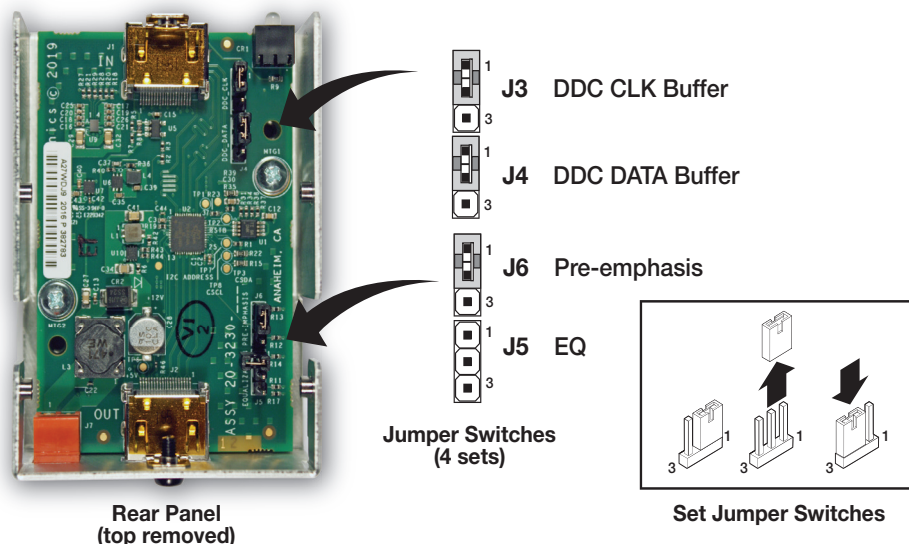

Figure 4. Locating the Jumper Switches
Under most conditions, the HD 4K 101 Plus works without adjustments. However, the quality of the image displayed may be affected by a combination of the source, display, and cable length. If so, the HD 4K 101 Plus has two sets of jumper switches that are used to adjust Equalization (EQ), and Pre-emphasis (see figure 4 and the table for Internal Jumper Settings on page 8).
2. Locate the four sets of jumper switches on the side of the circuit board (see figure 4).